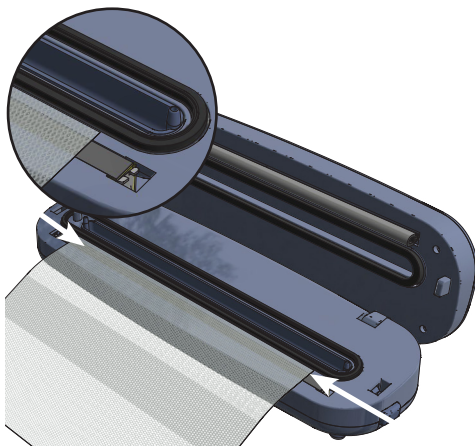

Figure 3: When sealing, position the bag over the Sealing Strip all the way to the gasket.
- b.) Place the foil over the sealing strip aligning it with the gasket (see detailed Figure 3).